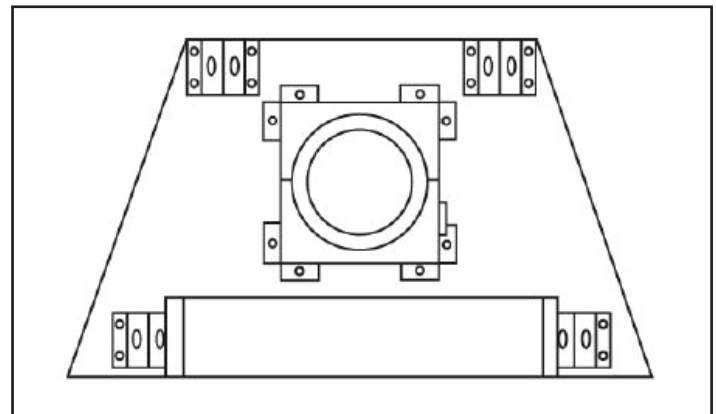
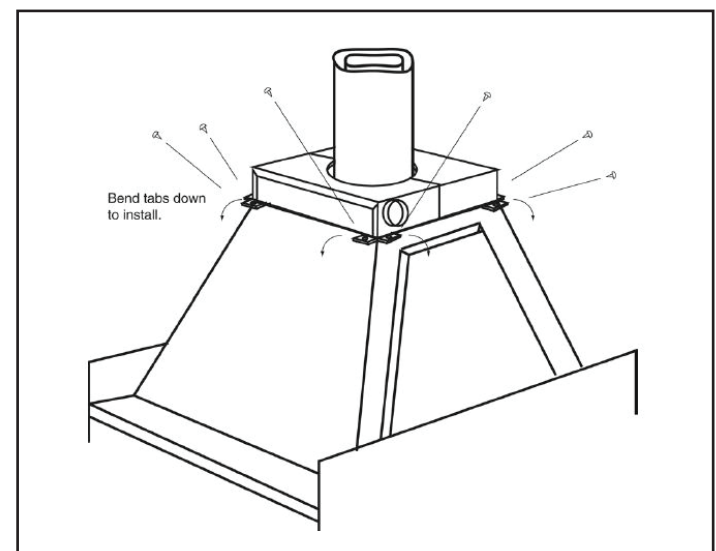

Figure 2 - On Top of Fireplace
Figure 3 - On top of See-Through Fireplace
- Once the chimney pipe is installed, place the box on top of the fireplace around the chimney pipe and attach the two halves of the CAK together. See Figures 2, 3 and 4. Installation on a see-through fireplace will require bending the tabs down to match the angle of the top pan/smoke shield. See Figure 3.